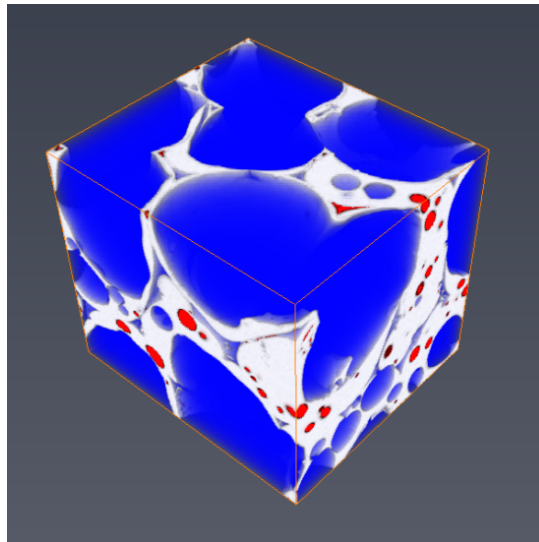

Figure 22.7: Connected Porosity vs. Unconnected Porosity
5. To visualize the connected porosity vs. unconnected porosity: attach a *Subtract Image* module to the output of the *Auto Thresholding* module and to the output of the *Axis Connectivity* module. This will create a label representing the unconnected porosity (floating void). Attach a *Volume Rendering* to this data, and use the seismic colormap. This colormap will colorize in blue the data at 0 (connected porosity) and in red the data at 1 (unconnected porosity) Set the opacity to 0.2: it allows better visualization of the solid phase. (see Figure 22.7).